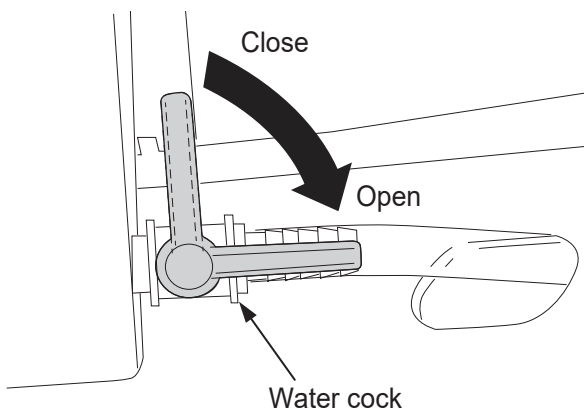

Fig.24
3. With water cock opened, spray cooling water to the blade.(Fig. 24)
4. To cut-in with the blade at the bottom, turn Crank handle to the counter clockwise, and cut down while adjustment the lowering speed so that engine speed is not reduced excessively.(Fig. 24)